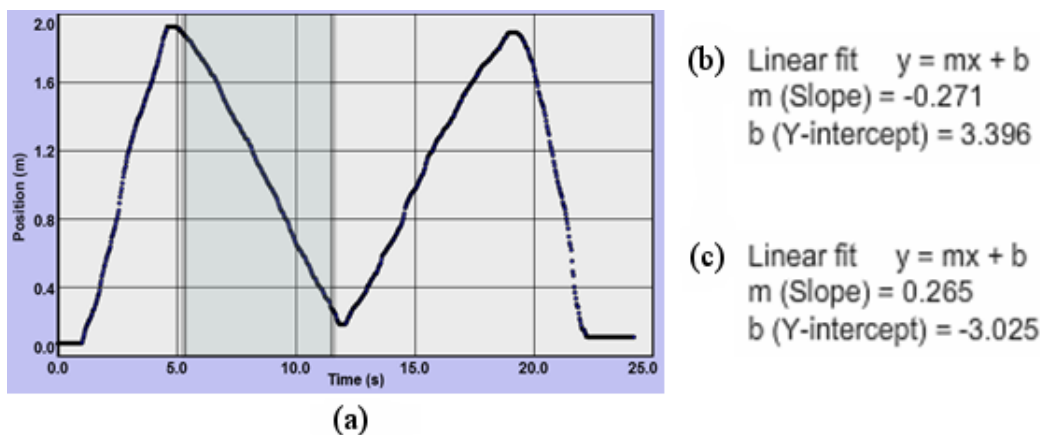

Figure 3: Sample results from the “Using Grapher” instructions
Congratulations, you’ve made a capital M. (See Figure 3(a).) If not, give it another try.
- 1 In Grapher, click at a point somewhere in the graph a bit to the right of the time when the first of the two inside segments begins. (See the left edge of the shaded area in Figure 3(a) at about 5.3 seconds.)
- 2 Drag to the right. A gray box will appear. Continue dragging until you’re near the end of that segment and then release (at about 12 seconds in Figure 3(a)).
- 4 With the data still selected, click the "Linear Fit" check box. Data will now appear in the "Linear Fit" data box. Grapher has drawn the **line of best fit** for that part of your graph in pink. The values for the M-graph shown in Figure 3(a) are displayed in Figure 3(b).
- 5 Now repeat for the next segment to the right, the rising segment inside the M. You now have a second line of best fit. Its data will appear in the text box as shown in Figure 3(c). The two slopes are -0.271 m/s and 0.0265 m/s. **These slopes are the average velocities, $\Delta x/\Delta t$, for these two segments.** They are calculated using a mathematical technique called *linear regression*.